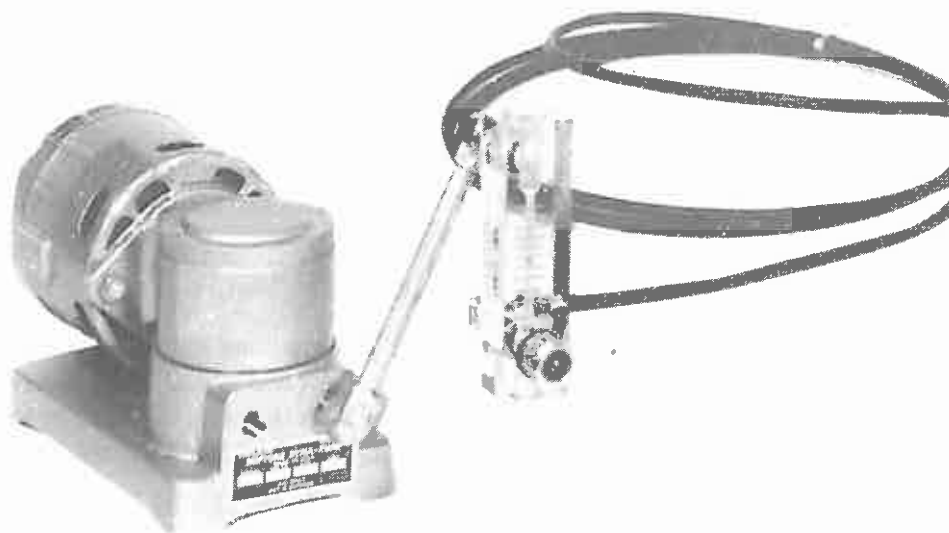

Figure 1-11. Model 300-SS Sample System Kit Accessory.
1.2.10 Model 300-SS Sample System Kit Accessory (Figure 1-11)